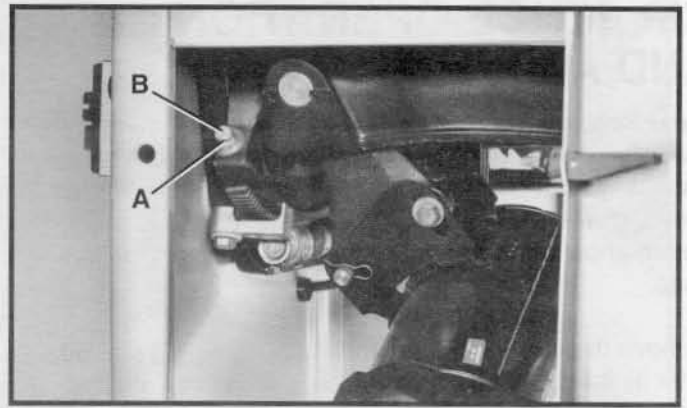

Fig. 46
2. Using a square, check to see if the blade is 90 degrees to the table. If an adjustment is necessary, turn the blade tilting handwheel counterclockwise. Loosen locknut (A) Fig. 46, and tighten or loosen adjusting screw (B) until head of screw (B) contacts casting on front trunnion when the blade is at 90 degrees to the table. Then tighten locknut (A).